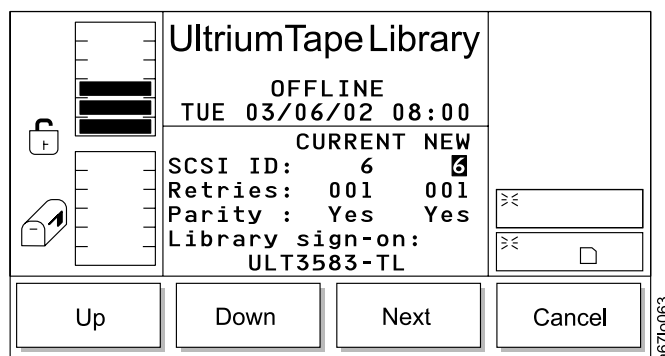

Figure 141. SCSI Dialog
- If **SCSI** is selected, the SCSI Dialog displays (see Figure 141).